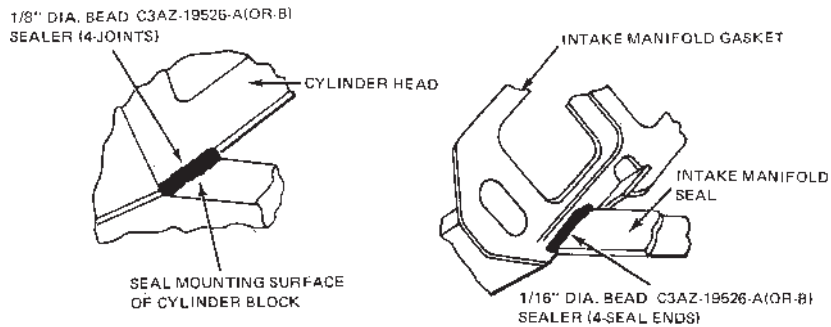

Fig. 14 Typical RTV Sealer Installation-intake Manifold
2. Clean the mating surfaces of the intake manifold, cylinder heads and cylinder block. Use a solvent such as lacquer thinner, chloroethane or tri-chlor-ethylene. Apply a 1/8 inch bead of silicone rubber sealer at the points shown in Fig. 14.
Apply a 1/16 inch bead of the above sealer to the outer end of each intake manifold seal for the full width of the seal (4 places). See Fig. 14.